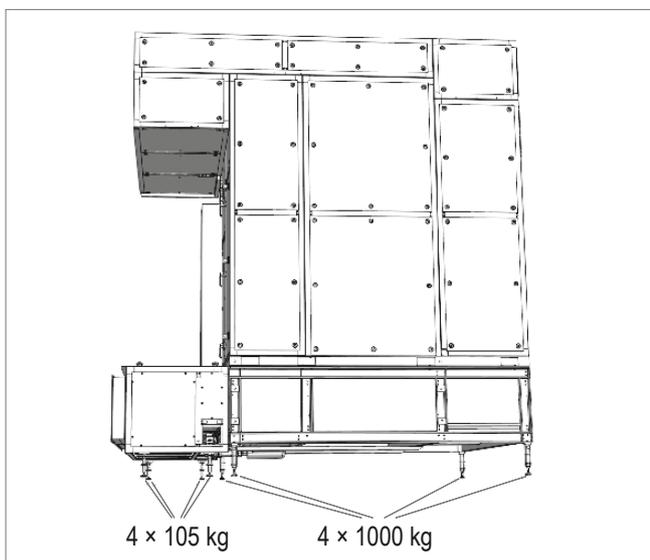

Fig. 8: Load distribution
- Ensure that the installation surface is of sufficient load-bearing capacity. The weight of the unit is distributed over the adjustable feet (see Fig. 8).